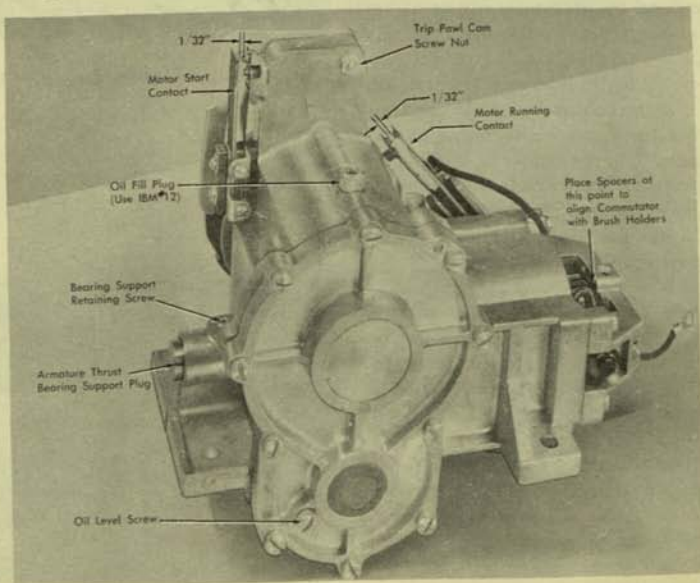

Figure 4
1. Adjust the end play of the motor armature shaft to .005" by adjusting the thrust bearing plug (Figure 4). Check to see that the commutator lines up properly with the brush holders.